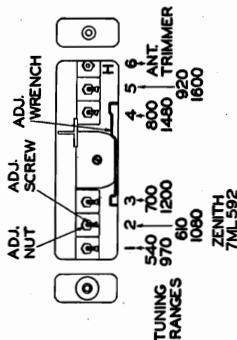

FIG. 5
6. Adjust the R.F. trimmer G (see Fig. 4) and the antenna trimmer H (see Fig. 5) for maximum response.
3. Adjust the No. 1 screw (see Fig. 5) with the wrench provided until the desired station is tuned to the loudest point.
4. Adjust No. 1 nut (see Fig. 5) for maximum signal.
- The tuning range is shown below each adjustment number (see Fig. 5).